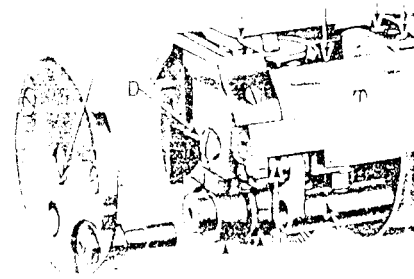
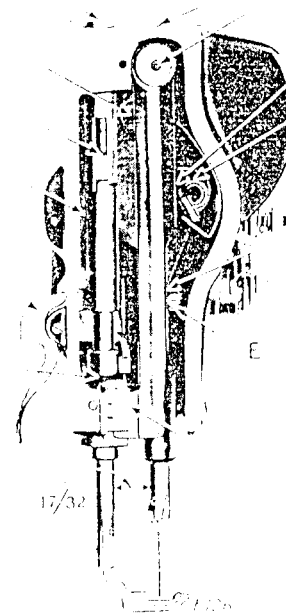

Fig. 4 Oiling Points and Adjustment in End of Cylinder
Fig. 5. Machine 153K102 and 154K101
Remove the cylinder end cover and apply oil to the places indicated in Fig. 4. Move the face plate aside and oil the wick and bearings shown in Fig. 5, then replace the face plate.
In case the needle bar is not correctly set, loosen the needle bar connecting stud pinch screw (E, Fig. 5) and place the needle bar in correct position as directed above, then retighten the screw (E).